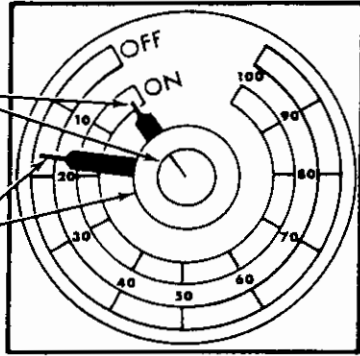

FIGURE 1
8. Position box halves for final stitch in each seam. Release side gauge limit switch clamp (85) (use wrench) and adjust position of limit switch (88) so that the trailing end of the box board releases the limit switch roller arm just before the final stitch position is reached. This must be done for both seams; the left side gauge limit switch controls the lower stitching head; the right side gauge limit switch (88) controls the upper stitching head.
9. A pulse timer (99) is used to initiate each stitch stroke. The speed of making stitches may be varied without losing synchronization between the heads up to about 180 stitches per minute (each head). A typical timer setting using top and bottom stitching heads synchronized is shown in Figure 1.